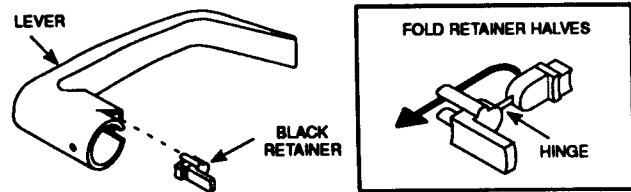

Figure 11-a
- Insert gray retainer as shown in Figure 11-a.
- See Figure 11-b. Align lever shank hole with lever catch. Slide lever assembly onto chassis up to lever catch. Depress lever catch while depressing button (if present) and push lever assembly until lever catch is engaged, securing lever assembly.